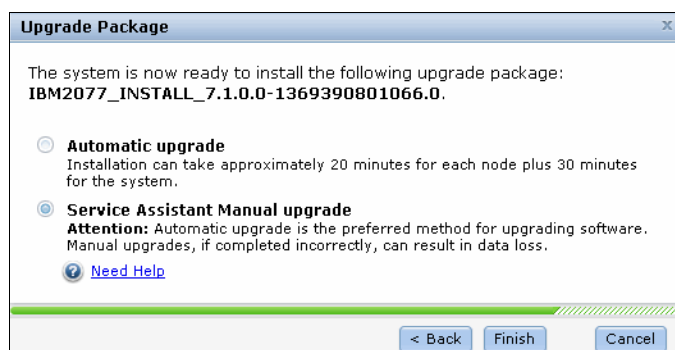

Figure 12-34 Select manual upgrade mode
1. In the management GUI, click **Settings** → **General** → **Upgrade Software** and run the Upgrade wizard. In step 5 of the wizard, select **Service Assistant Manual upgrade**, as shown in Figure 12-34.